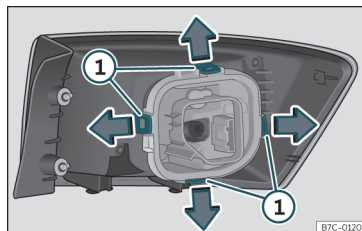

Fig. 92 Retaining tabs on reverse side of tail light.
- Disassemble the bulb holder unlocking the securing tabs »» Fig. 92 ①.